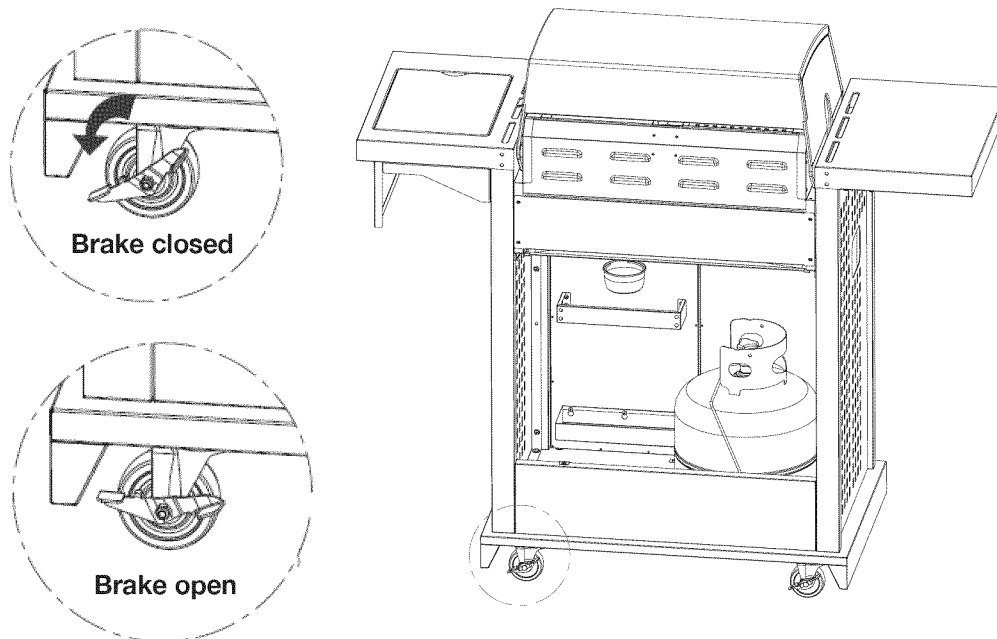

Fig. 15
1. When the grill is in the desired location, lock the caster brake. This will help the grill stay in place for safe operation as shown in **Fig. 15**.